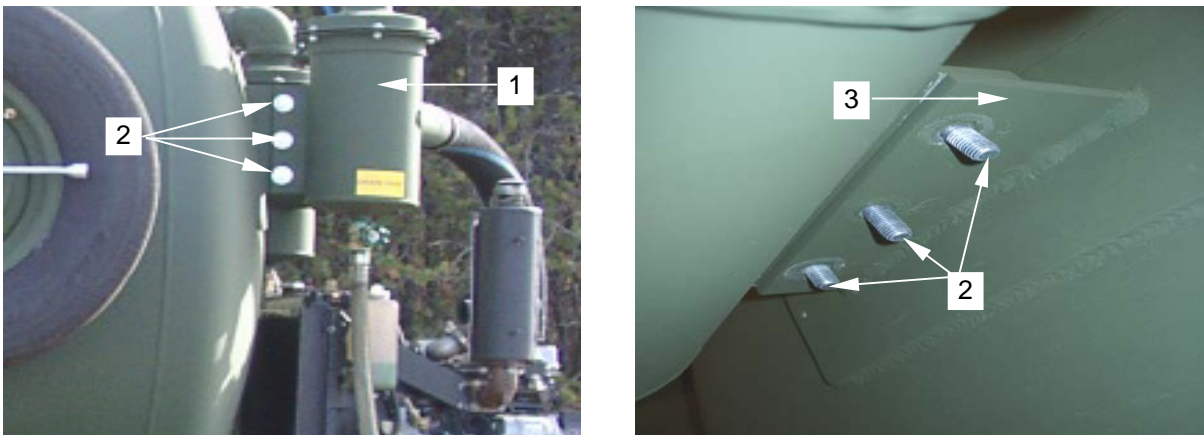

Figure 2. Removing Oil Catch Muffler from Bracket
7. While supporting the oil catch muffler (**figure 2, item 1**), remove hex bolts, nuts and flat washers (**figure 2, item 2**) securing the muffler to the tank bracket (**figure 2, item 3**). Retain hardware.
8. Lift the oil catch muffler (**figure 2, item 1**) off the bracket (**figure 2, item 3**).
9. Place new oil catch muffler (**figure 2, item 1**) onto tank bracket (**figure 2, item 3**) and install hex bolts, nuts and flat washers (**figure 2, item 2**).